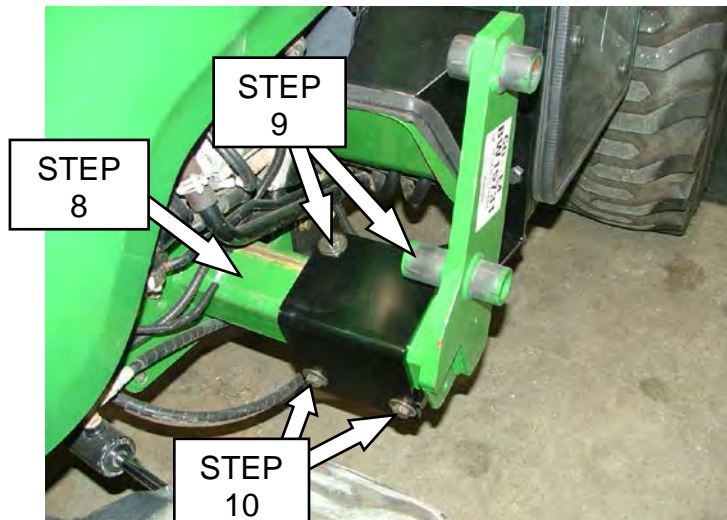

FIGURE 5
8. Place L-mount plate (22) on top surface of LH loader tube (**Figures 5 & 6**).
9. Place LH front mount (9) against bottom surface of LH loader tube and secure back of L-mount plate using (**Figures 5 & 6**);
10. Secure front of L-mount plate to lower mount using (**Figures 5 & 6**);